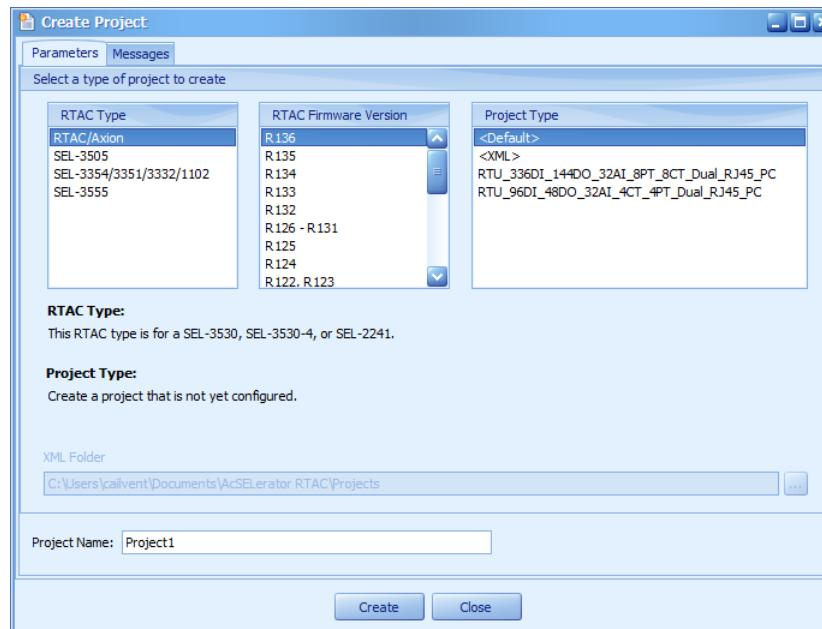

Figure 123 Create a New Project
Step 1. Create a new project in ACSELERATOR RTAC from the main menu, as shown in *Figure 123*.